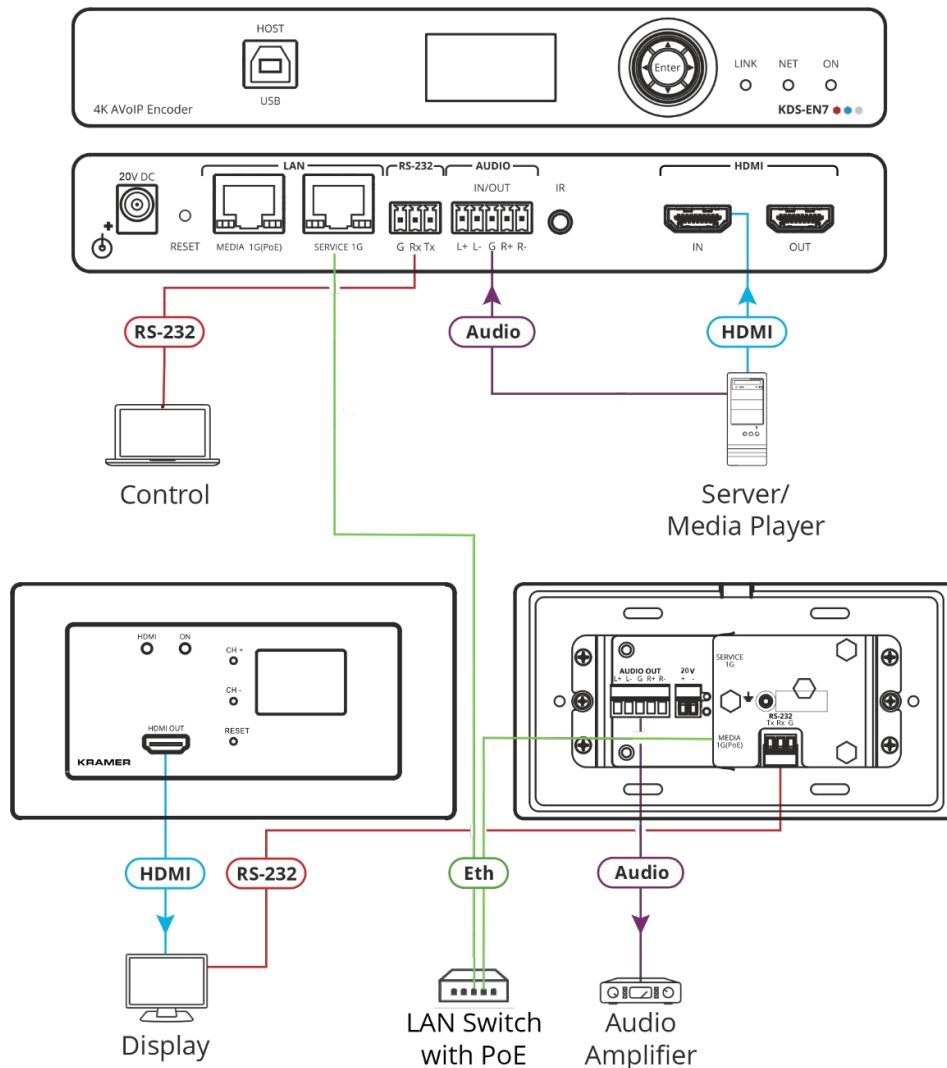

Figure 2: Connecting the WP-DEC7 Decoder to a KDS-EN7 Encoder
**To connect WP-DEC7 as illustrated in the example in Figure 2:**
1. Connect the LAN MEDIA 1G(PoE) RJ-45 port (7) on the **WP-DEC7** to the LAN MEDIA 1G(PoE) RJ-45 port on the LAN switch.
3. Connect the HDMI OUT connector (1) on **WP-DEC7** to an HDMI acceptor (for example, a display).
- On the **WP-DEC7**, connect RS-232 (12) to the display.